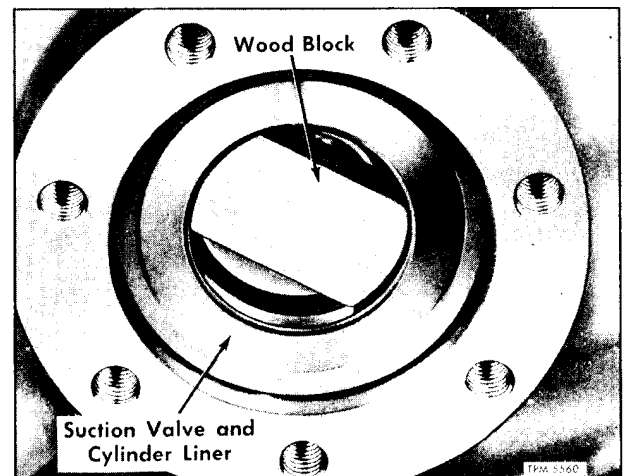

Figure 44—Removing Suction Valve and Cylinder Liner
1. Rotate the crankshaft until piston head is down about 2 inches from top, then place the wood block into cylinder. Rotate crankshaft to cause piston (8) to press block and cylinder liner (11) with suction valve from compressor bore (fig. 44).